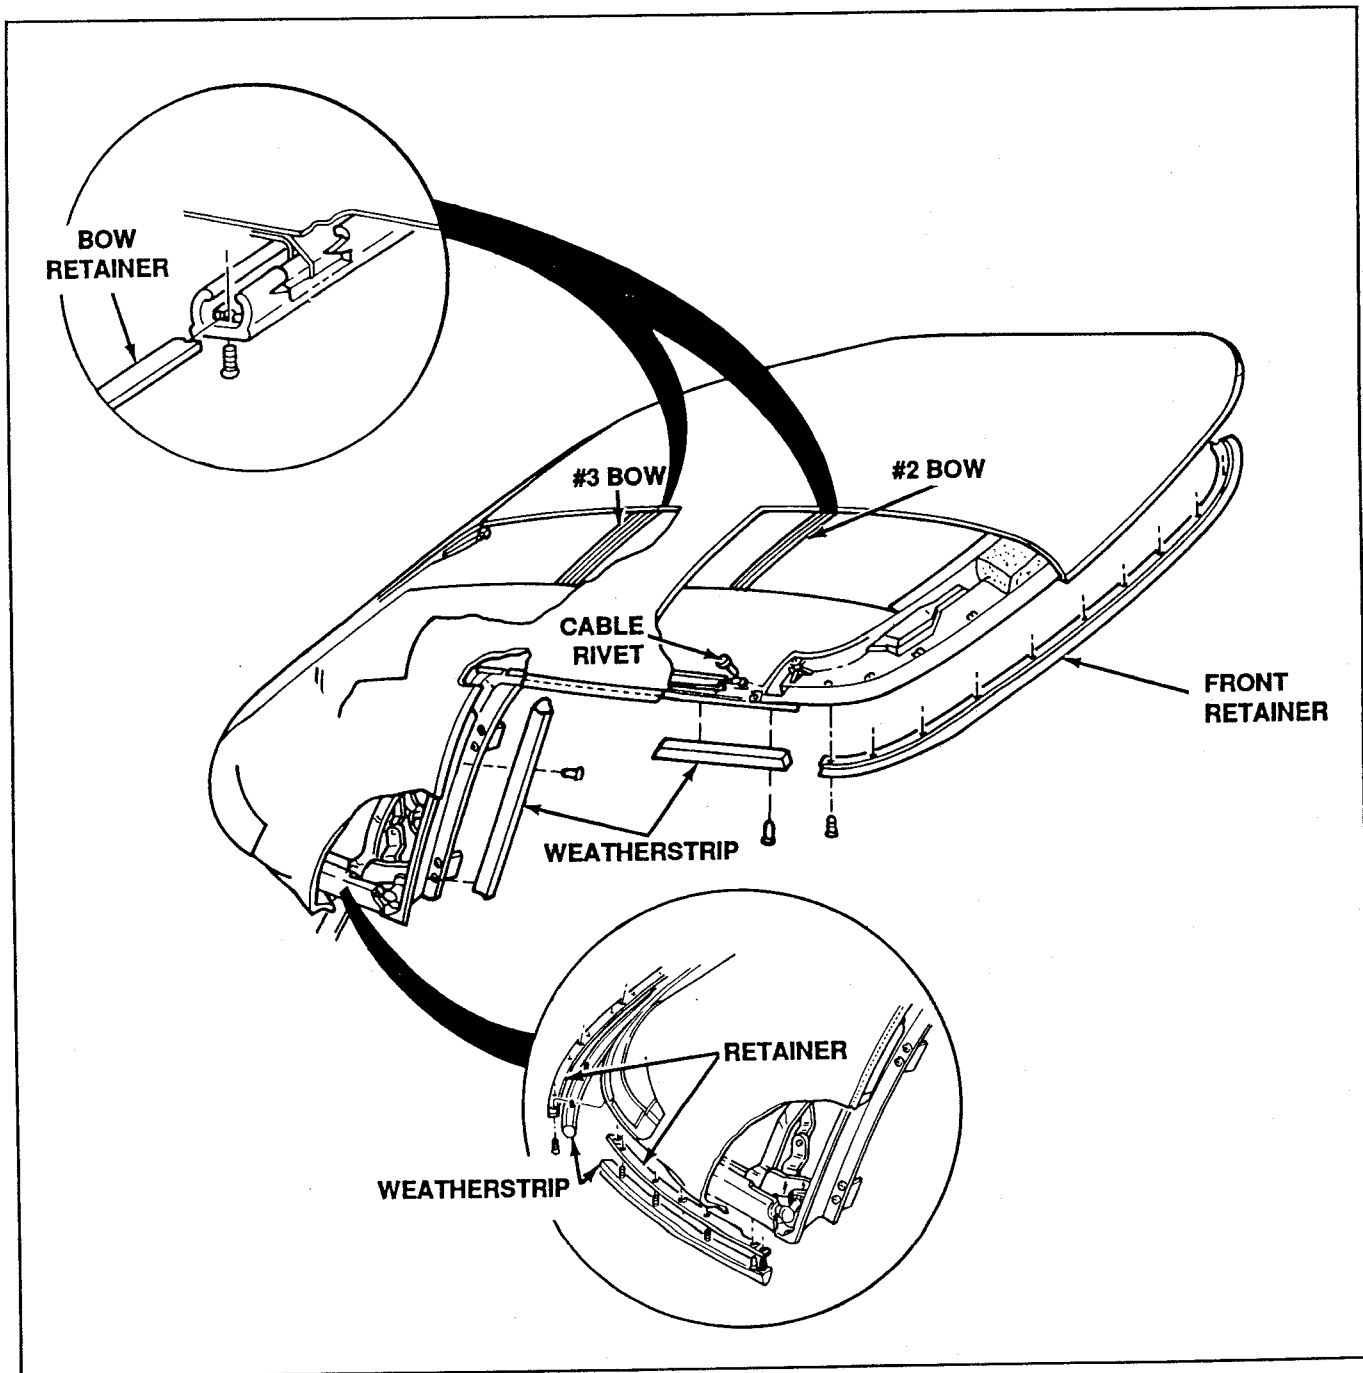

Figure 59. Remove Retainers
4. Remove the 1-bow retainer, and #2 and #3 bow retainers (Fig. 59).